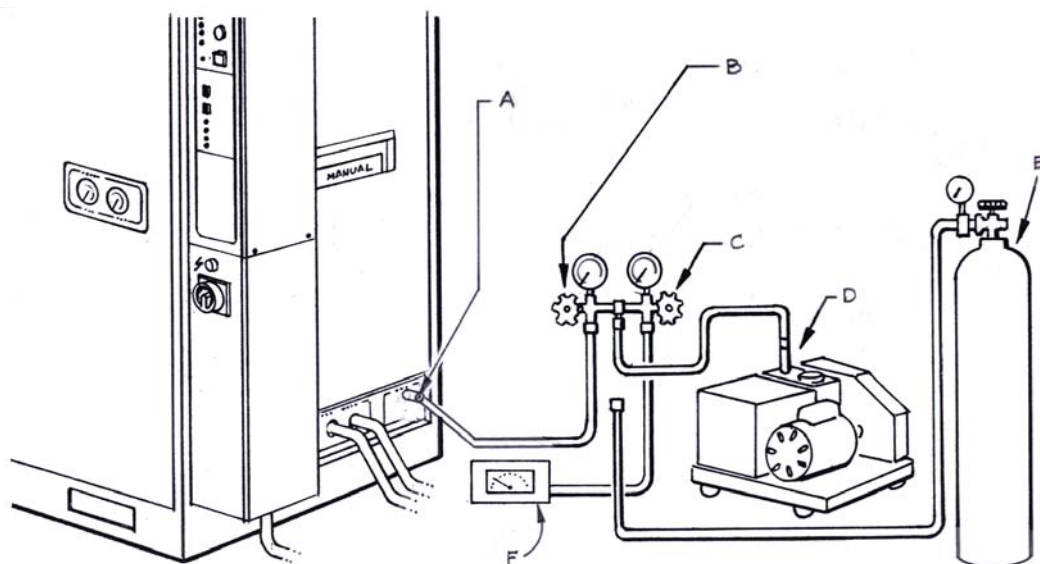

Figure 4-8: Refrigerant Line & Cryosurface – Evacuation Set-up
1. Evacuate the refrigerant line and cryosurface to 0.1 torr (13 Pa). (See Figure 4-8.)
1. Connect the nitrogen cylinder to the manifold's center hose. (See Figure 4-8.) Pressurize the refrigerant line and cryosurface to 10-20 psig (70-140 kPa).